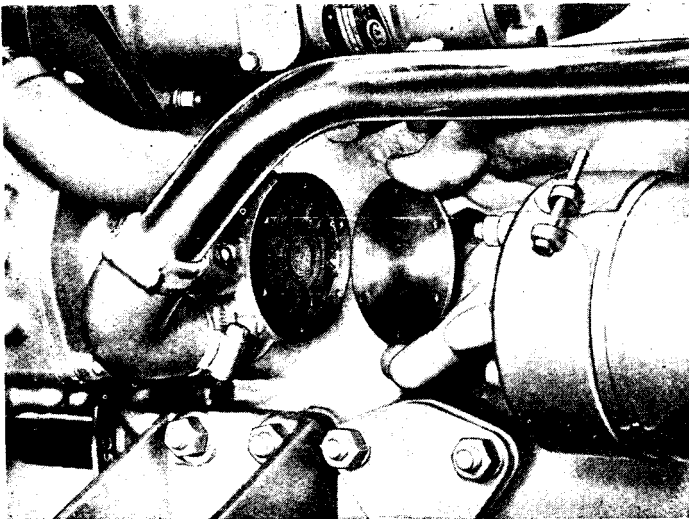

Fig. 6.
11. Remove end plate from the sea water circulating pump and lubricate the interior of the pump body with Glycerine (see figs. 6 and 7) or remove impeller for lay-up period. Always use a new joint when refitting backplate.